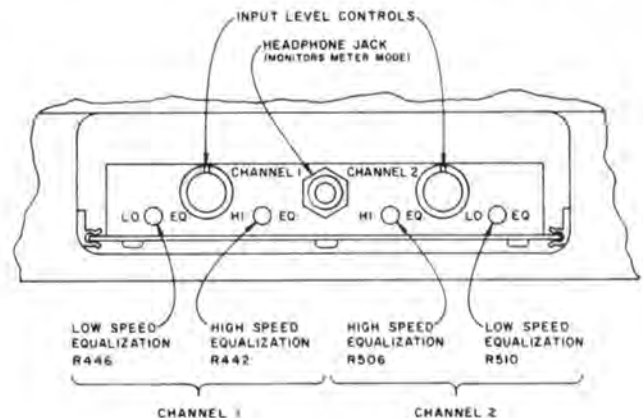

FIGURE 4-8
8. While recording the high frequency tone, adjust the high speed equalization pot until the high frequency is equal in level to the -10 dBm reference tone established in step 6. Refer to Figure 4-8 for location.
12. Change the frequency of the signal generator to 15 kHz (7.5 kHz if this is a 3-3/4 IPS machine) and adjust the low equalization control for a -10 dBm reading on the voltmeter. See Figure 4-8.